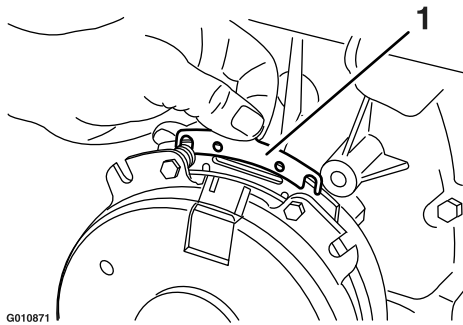

Figure 72
- B. Using needle-nose pliers, or by hand, hold the tab and remove the shim (Figure 72).
Remove any buildup of grass, dirt, or other debris from the engine screen. This helps ensure adequate cooling and correct engine speed and reduces the possibility of overheating and mechanical damage to the engine (Figure 72).